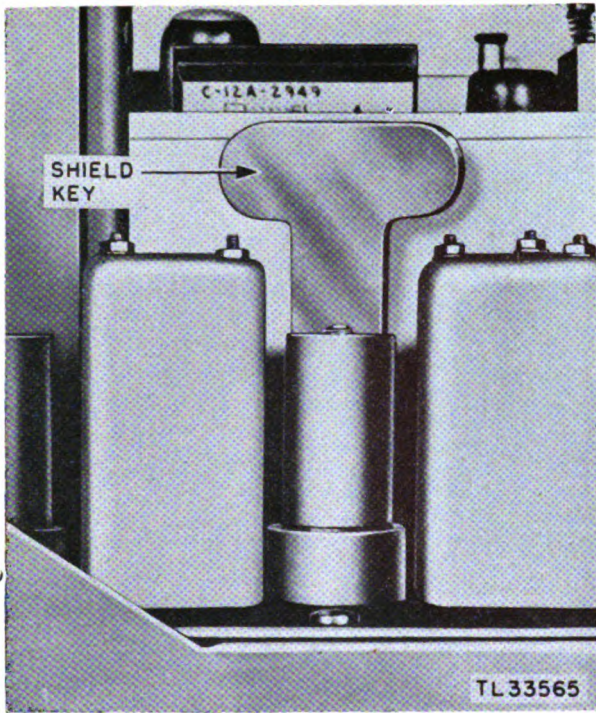

Figure 203. Radio Receiver and Transmitter BC-1267-A, tube shield key.
*k.* TUBE 14. Tube 14 has a shield over it which must be removed. Use the key which is fastened to the chassis next to tube 1 on the receiver section to turn this shield in a counterclockwise direction (see fig. 203). After the shield has been taken off, the tube can be removed without difficulty.